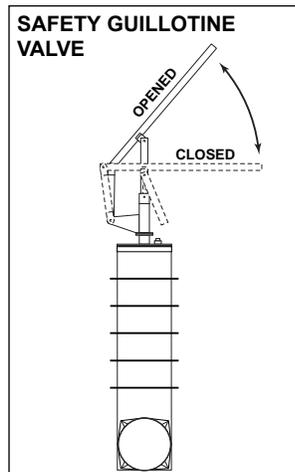

Fig.4
11. Open the safety guillotine valve -fig.4.
2. Close the safety guillotine valve to ensure that the material in the evacuation line is pushed towards the manure reservoir -fig.4;